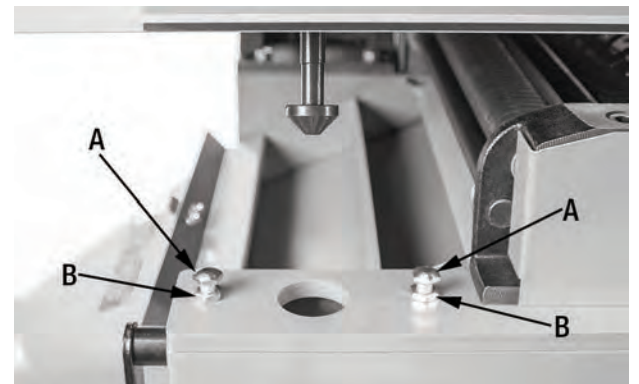

FIGURE 13
1. Using two 13mm wrenches, hold the hex. bolt (A) Fig.13 in place, and loosen hex. nut (B). Repeat for the second hex. bolt and hex. nut.
2. Adjust the hex. bolts (A) in small increments. Rotating the hex. bolts clockwise will raise the table, and counterclockwise will lower it. The hex. bolts on the left will have the most impact on the left side of the table, and the hex. bolts on the right will have the most impact on the right side of the table.